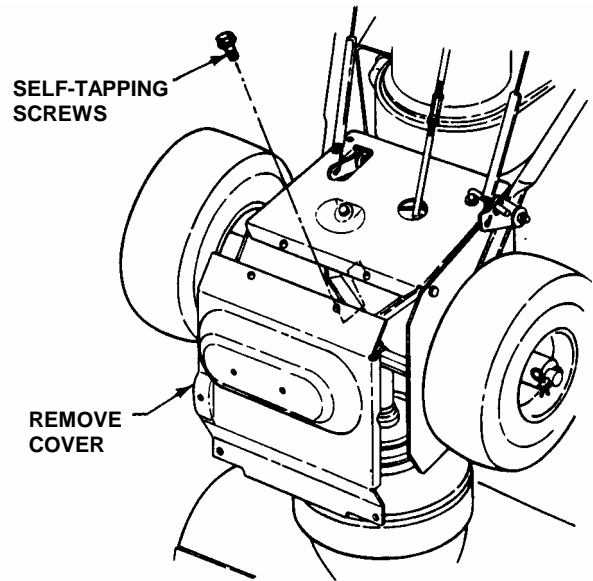

FIGURE 4.7
7. Tilt machine forward to gain access to drive system area. Secure machine in the tilted position to prevent tipping over. Remove drive system cover plate. See Figure 4.7.